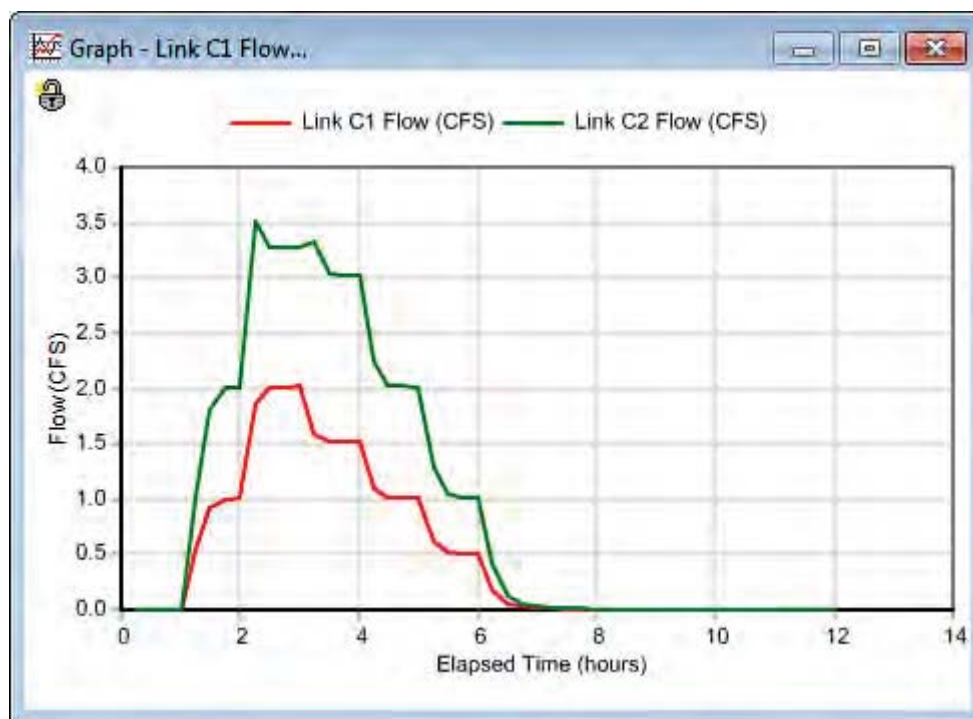

Figure 2-15 Time series plot of link flows
4. Press OK to create the plot which should look like the graph in Figure 2-15.